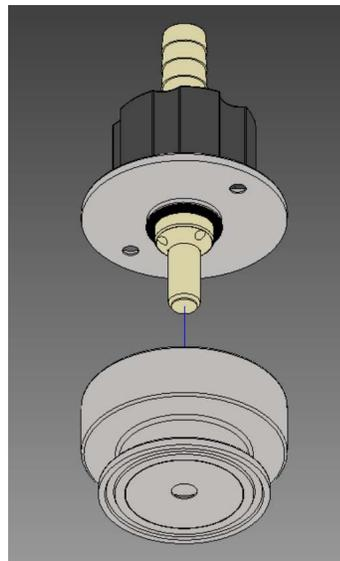

FIGURE F. 3. - TOP HALF REMOVAL
3. Remove upper half of the valve from the valve body (see Figure F.3.)